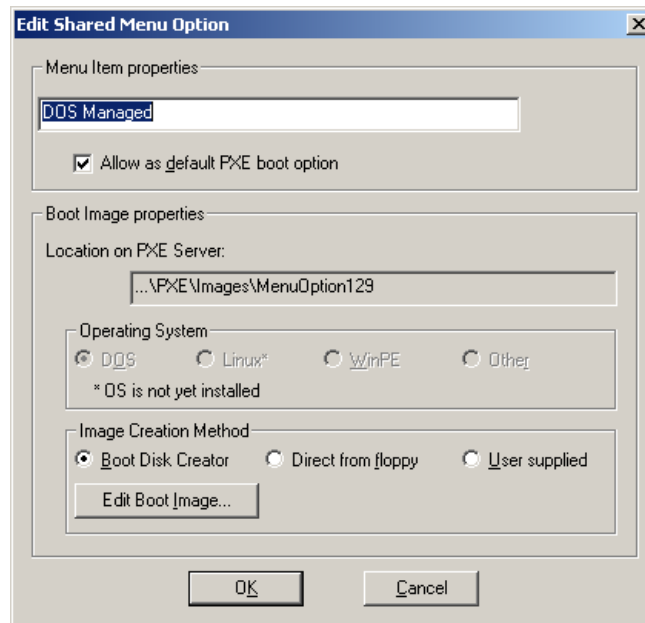

Figure 6-11 The Edit Shared Menu Option window for the DOS Managed PXE boot image
17. Click **Finish** to close the Altiris Boot Disk Creator. This will return you to the window shown in Figure 6-11 on page 184. Click **OK** to close the Edit Shared Menu Option window. This will return you to the PXE Configuration Utility. Notice that the Save button is enabled after the boot image has been changed. Click **Save** to save the altered boot image.